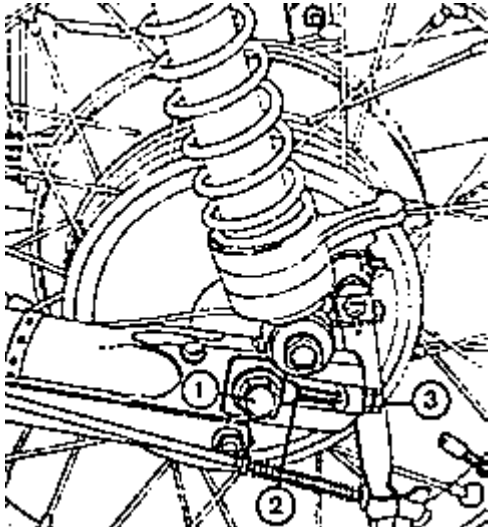
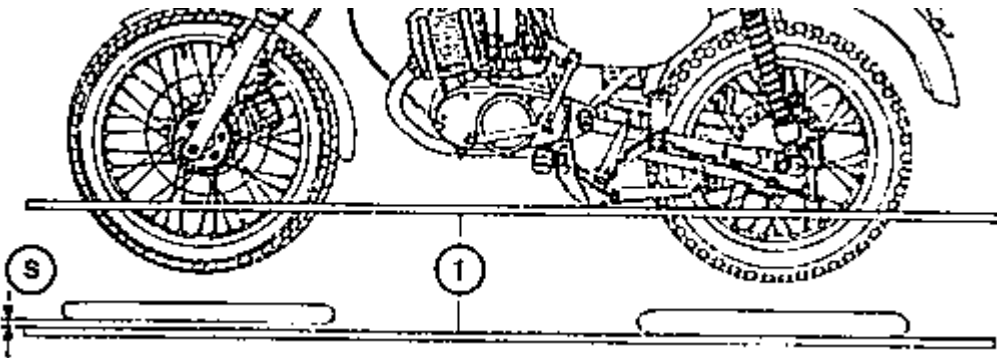

Fig. 31. Tensioning the chain
Fig. 32. Aligning the wheels
The knock-out axle (1) and the nut for fastening the rear wheel drive must be loosened. Then uniformly turn the adjusting screw (3) of the two chain tighteners (2) and provide the screw with a check nut after setting (Fig. 31). Check the wheel track according to Fig. 32 by means of the check staff or by visual inspection from the front. The gap (S) results from the different widths of front wheel and rear wheel.